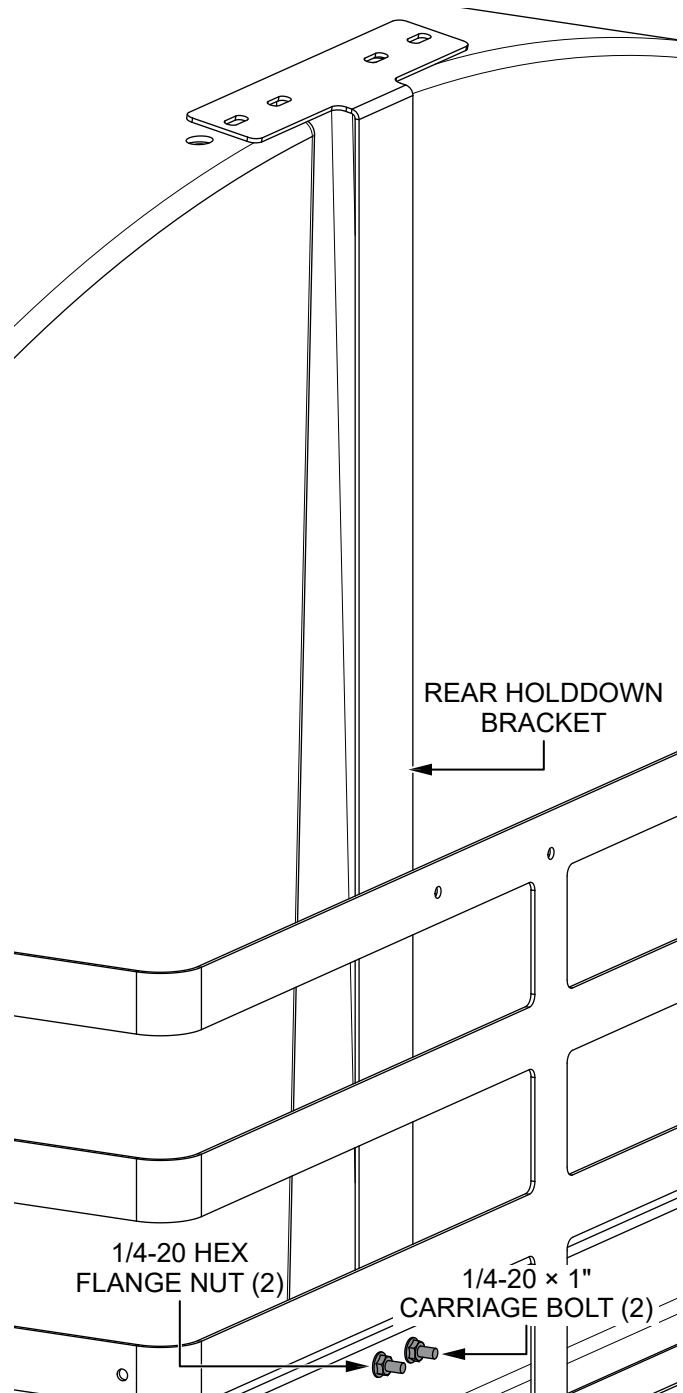

Figure 6. Remove Lower Rear Holddown Bracket Hardware
6. Remove and discard the **two 1/4-20 hex flange nuts** and **two 1/4-20 × 1 carriage bolts** (Figure 6) securing the rear holddown bracket to the trailer. Then remove and discard the bracket.